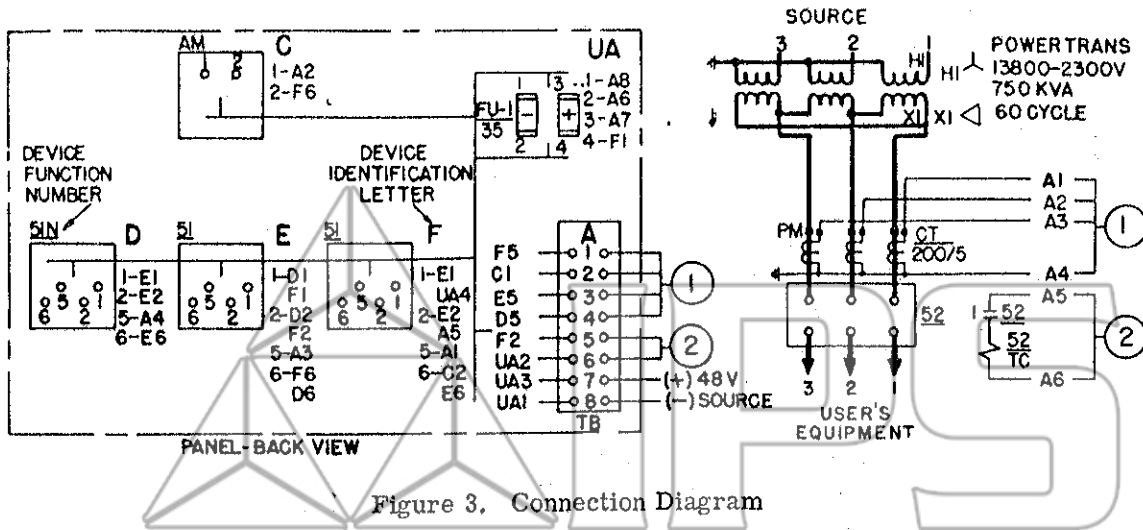

Figure 3. Connection Diagram
CONNECTION DIAGRAMS (SEE FIGURE 3)
1. Each device on a unit of a switchgear assembly, such as a metal-clad switchgear unit or a panel of a duplex board, is assigned an arbitrary identification letter or pair of letters. Such letters are also assigned to each terminal board, fuse block, resistor, or other accessory device to which wires are attached. The letters can be assigned consecutively from left to right and top to bottom or top to bottom, left to right. First letters of the alphabet are usually assigned to terminal boards. A few letters between terminal board and device designations remain unassigned depending upon the size of the equipment, for designating terminal boards which may be added in the future. After all the letters of the alphabet have been used, double letters, AB, AC, AD, etc. are used or double letters may be used to designate specific circuits or positions. Referring to Fig. 3 as an example, the terminal board is assigned the letter "A"; the devices, letters "C", "D", "E" and "F"; and the fuse block, "UA".
The method outlined for tracing out a circuit on the simple diagram of Fig. 3 also holds for more complicated diagrams. With the aid of the respective elementary diagram while tracing through circuits of the connection diagram, a marked proficiency in reading the diagrams will result and a better knowledge of circuits will follow.